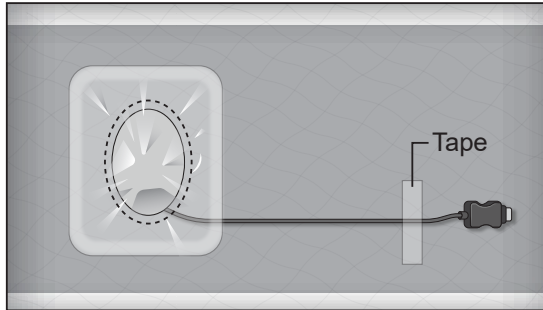

Figure 8-6: Apply tape provided in Patient Kit
3. Secure (tape) the Lead Adaptor cable in place to avoid dislodging the lead when removing the Gel Electrode (**Figure 8-6**).